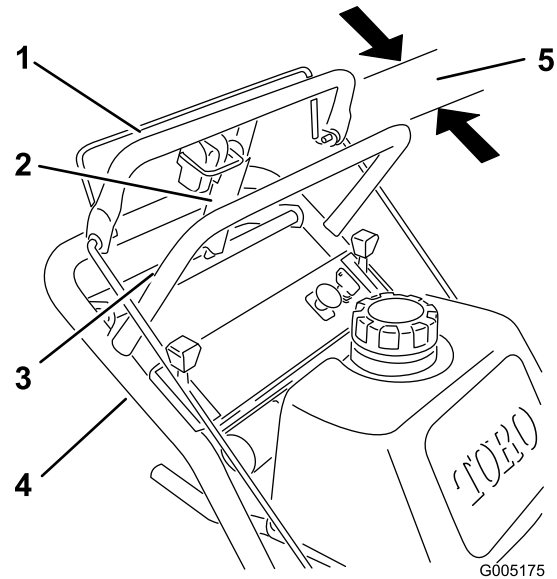

Figure 39
1. Check the gap between upper control bar and fixed bar with wheel drive fully engaged. The gap should be approximately 1 to 1-1/4 inch (25-32 mm) (Figure 39).